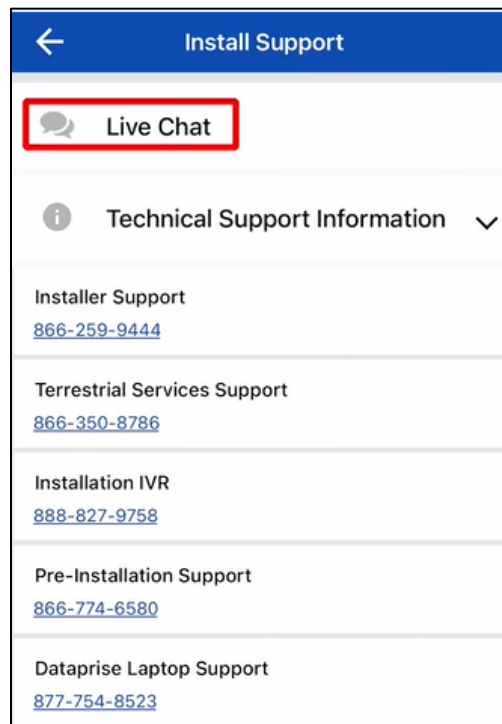

Figure 13: Install support
2. The *Install Support* menu will appear, as shown in Figure 13. You can choose to tap on any of the phone numbers to call any of the support lines directly or chat with a live agent using Live Chat.